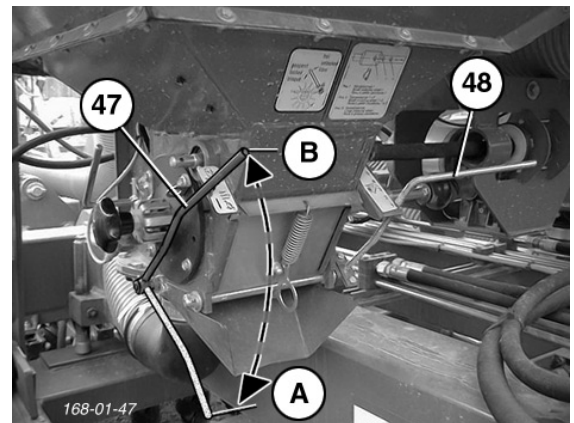

Fig.12
- Close both sliding elements (item 53)
- Fit agitator fingers (50) to agitator shaft (if required)
- Open both rotation flaps (fig.12, item B)
- Keep the button (51) pressed until the seed begins to flow smoothly into the containers (after about 2 to 3 turns of the dosing wheels)
- Close both rotation flaps (fig.12, item A)